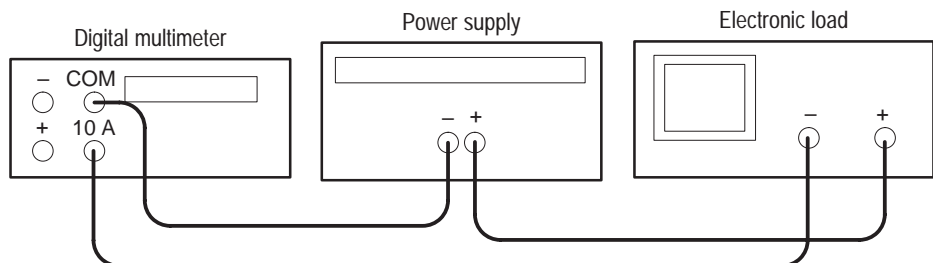

Figure 5: Constant current load test setup
2. Ensure that the power supply output is disabled. Connect the DMM and electronic load to the front panel OUTPUT 1 terminals. See Figure 5 for details.
21. Ensure that the power supply output is disabled. Connect the DMM and electronic load to the front panel OUTPUT 2 terminals. Maintain the equipment configuration and polarities shown in Figure 5.
2. Ensure that the power supply output is disabled. Connect the DMM and electronic load to the front panel OUTPUT 3 terminals. Maintain the equipment configuration and polarities shown in Figure 5.